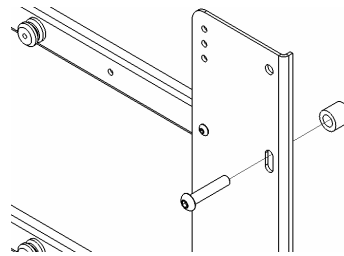
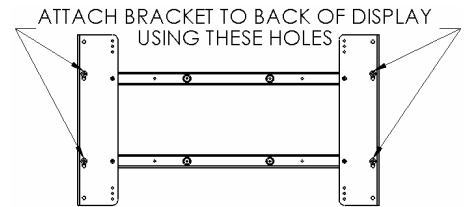

Figure 6
Figure 7
3. Place Nylon spacers over mounting holes on back of screen. Attach mounting brackets to display using the M8 screws. (see Figure 6 & Figure 7).